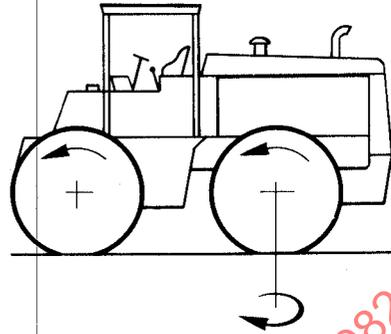

Figure 2 — Wheel tractor — Four wheel, rear wheel steer, four wheel drive
5.1.1.2 Wheel tractor (see figures 2 to 5).
5.1.2.2 Rear engine (see figures 2, 4 and 5).
5.1.3.2 Both axles (all wheels) drive (see figures 2, 4 and 5).
5.1.4.2 Rear wheel steer (see figure 2).